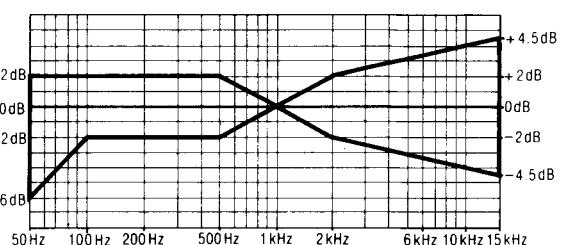

Fig. 14
8. Change test tape to CrO_2 reference blank test tape (QZZCRX), and record 1kHz, 50Hz, 100Hz, 200Hz, 500Hz, 4kHz, 8kHz, 10kHz and 15kHz signals. Then, playback the signals and check if the curve is within the limits shown in the overall frequency response chart or CrO_2 tapes (fig. 14).
9. Place UNIT into metal tape mode and change test tape to metal reference blank test tape (QZZCRZ), and record 1kHz, 50Hz, 100Hz, 200Hz, 500Hz, 4kHz, 8kHz, 10kHz, 12.5kHz and 15kHz signals. Then, playback the signals and check if the curve is within the limits shown in the overall frequency response chart for metal tapes (fig. 14).